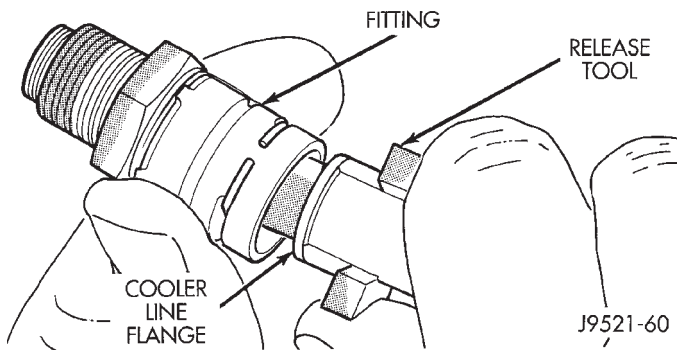

Fig. 29 Disconnecting Cooler Line With Release Tool (Type 2 fitting)
Early production models will have the type 2 fitting used previously. This fitting requires a release tool to disconnect the cooler line from the fitting (Fig. 29). Later production models will have a new style fitting that does not require any type of release tool. This fitting has a plastic insert with built-in release tabs (Fig. 30).
- (1) If fitting and cooler line are encrusted with dirt, mud, or grease, clean fitting and cooler line with Mopar spray type carburetor or brake cleaner. Plastic release tool will not fit into retainer clip if fitting is full of foreign material.
- (2) Slide small plastic release tool into fitting until tool bottoms against cooler line flange (Fig. 29).
- (3) Push and turn release tool to spread retainer clip and pull cooler line out of fitting (Fig. 29).
- (4) Cover open ends of cooler lines and fittings to prevent dirt entry.
- (5) Inspect condition of fitting. Replace transmission fitting as an assembly if fitting body or retainer